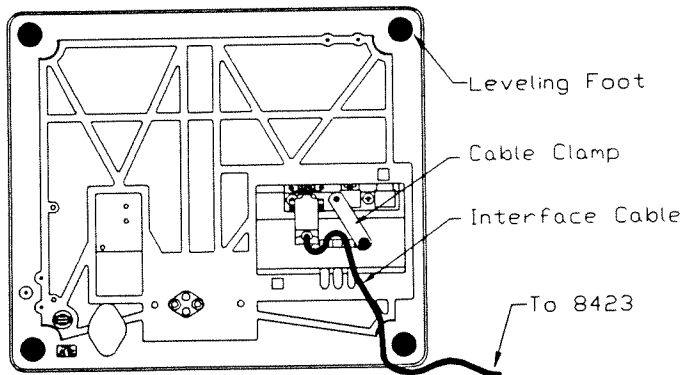
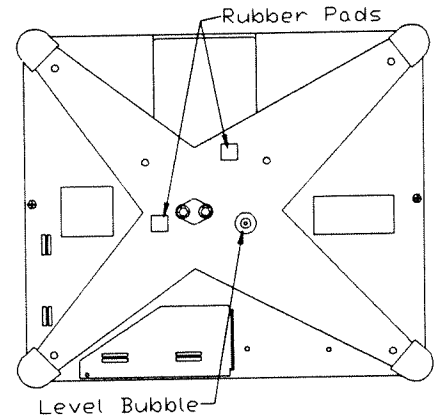

Figure 2.6 8213 Bottom View
Figure 2.7 8213 Top View
- 2.3.2 **8213-0101** Skip this step if the 8213-0101 will not be used. Place the 8213 scale on the area it will be used. The area must be a flat solid surface which is relatively level. Install Interface Cable 0900-0229 (ordered separately) in the jack as shown in Figure 2.6. Connect the other end of the cable to the jack marked **Scale** as shown in Figure 1.5 and 1.6. Adjust the scale level using the adjustable feet (Figure 2.6) on the base and the level bubble as a guide, as shown in Figure 2.7.
- 2.3.4 Install the rubber pads (shipped with the 8213) on the spider, as shown in Figure 2.7.